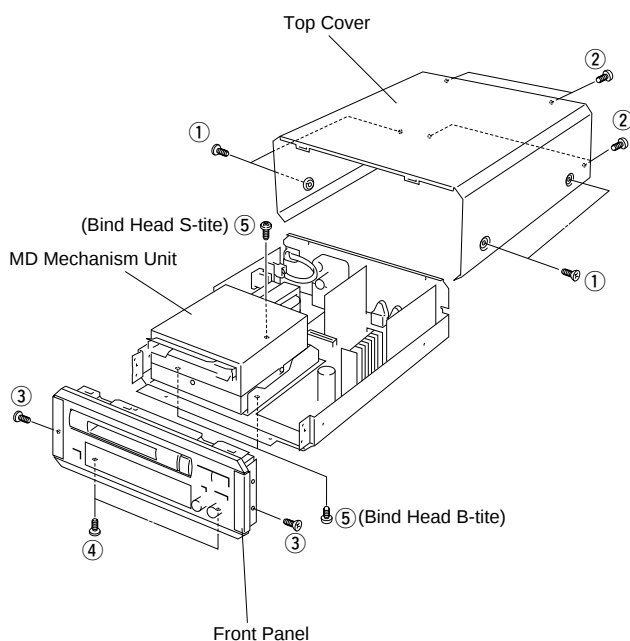

Fig. 1
- a. Remove 4 screws (①) and 4 screw (②) in Fig. 1.
- b. Remove 2 screws (③) and 2 screws (④) in Fig. 1.
- b. Remove 4 screws (⑤) in Fig. 1.